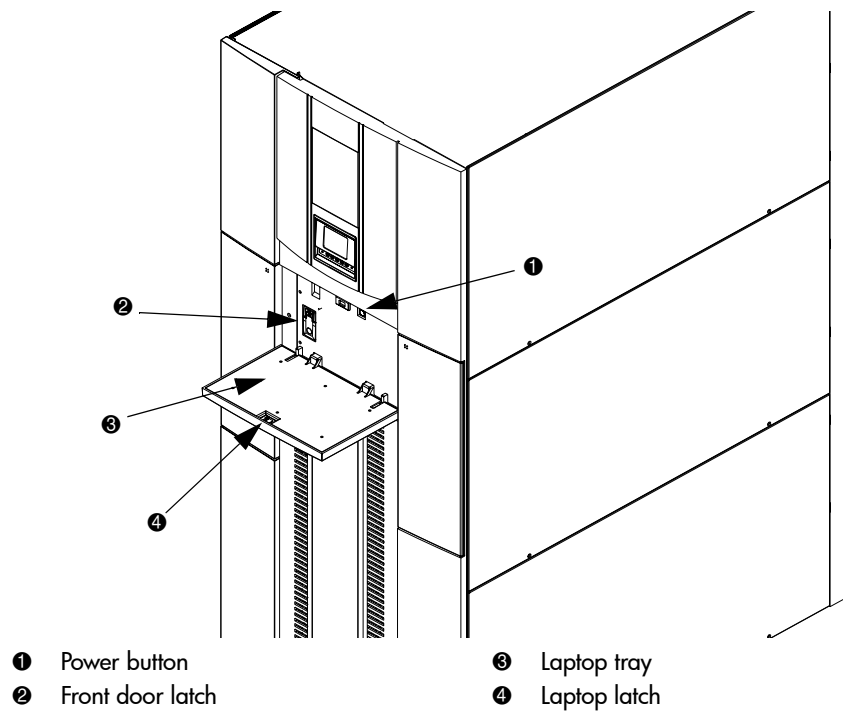

Figure 22: Closing the front door
1. Close and lock the front door using the key provided in the accessory kit (see Figure 22).
4. Power on the power switch located behind the laptop tray (see Figure 22, page 63).
5. Turn off the power switch located on the front of the library (see Figure 22 on page 63).